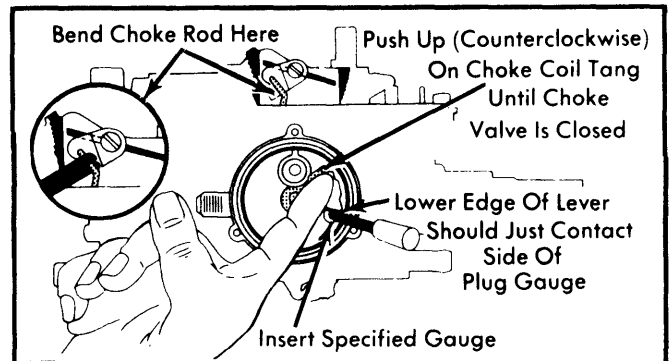

Fig. 4 Adjusting Choke Coil Lever
- 1) Remove retaining rivets. Remove choke cover and coil from choke housing. See Fig. 4.